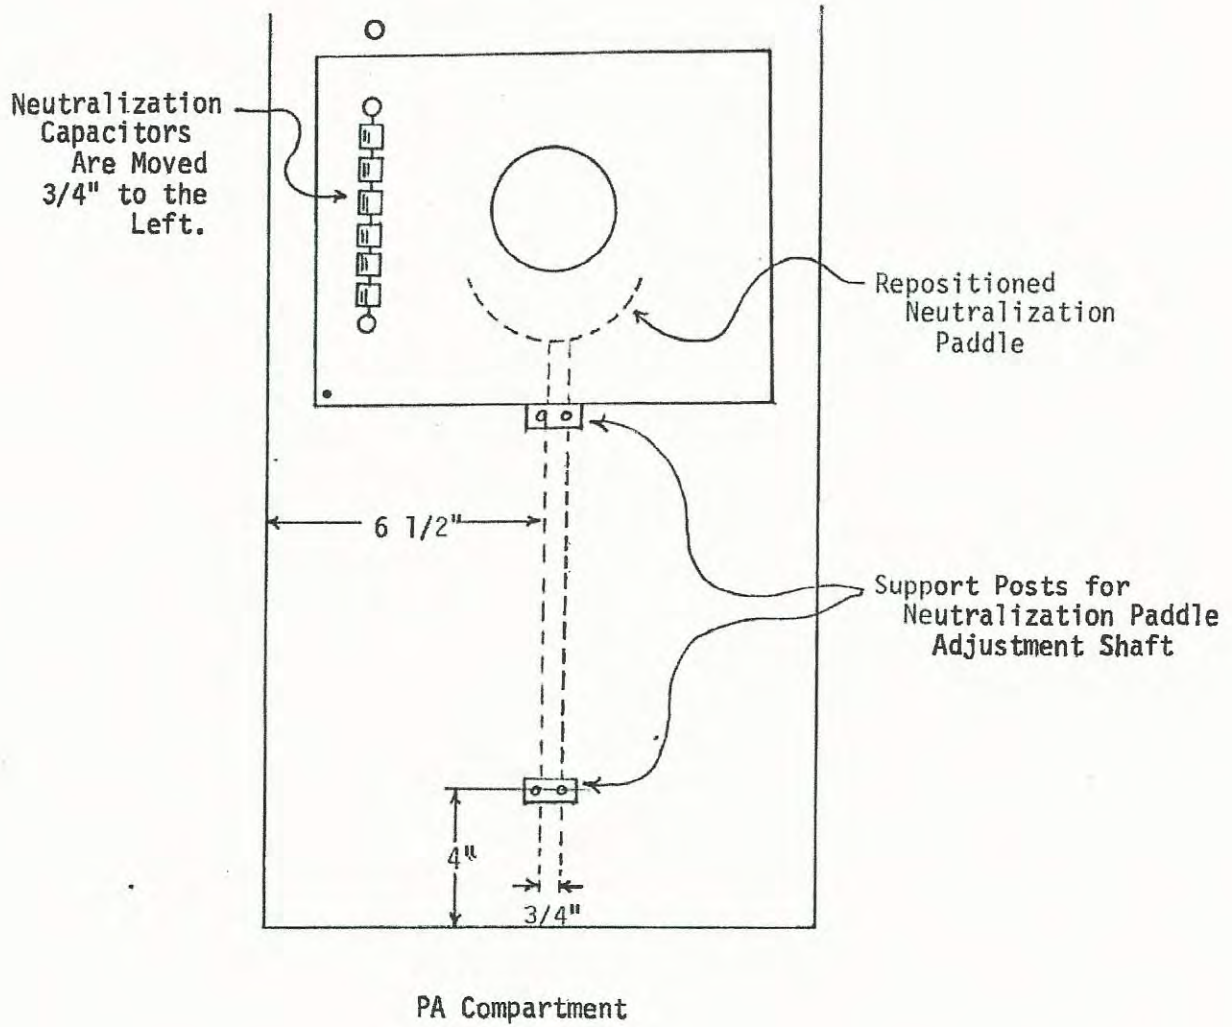

Figure 1A
- b. Drill holes for two support posts shown in Figure 1A to hold A9C29. The front post is mounted on the aluminum compartment floor just off the PA tube platform.